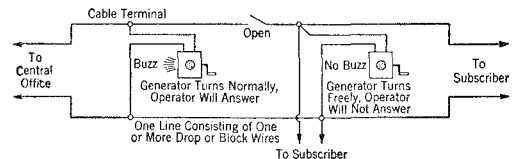

Fig. 9
3.05 When testing to locate an open in the drop or block wiring in areas where the ringing is selective and the ringers are not bridged across the line, the magneto test set should be bridged across the affected line by placing one test clip on one conductor and the other test clip on the other conductor of the pair. Place the test set switch in the proper position for calling and spin the handle of the generator. If the generator turns as it normally would on a clear line and the buzzer operates the open is not between the central office and the point at which the test is being made. If the generator turns freely and the buzzer does not operate the open is toward the central office. (See Figure 9.) By properly repeating this test at suitably selected points, the open may be definitely located. (Follow the principles that are outlined in paragraph 3.02.)